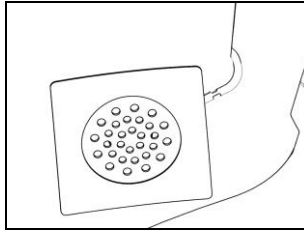

Fig. 39
- Position the left-hand side speaker in the cheek pad housing and secure it using the specific adhesive (Fig. 39).